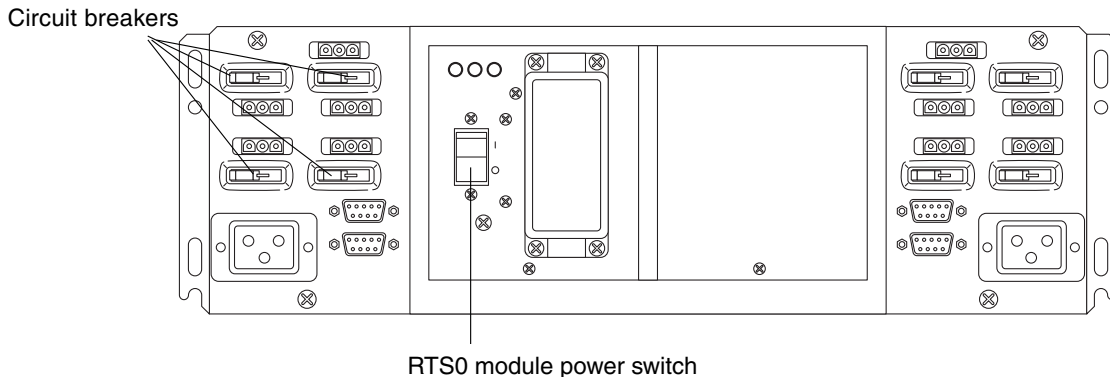

FIGURE 2-8 Sun Fire Cabinet RTU Circuit Breakers and RTS Power Switch
1. If your Sun Fire 4810/4800/3800 system is not in a Sun Fire cabinet, skip to Step 3. For the Sun Fire 6800 system or Sun Fire cabinet, turn on the RTS modules (FIGURE 2-8).